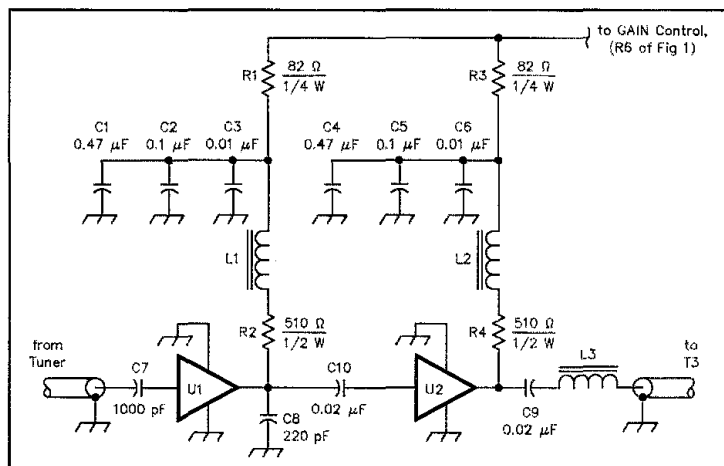

Figure 2—Schematic of the amplifier of Figure 1.
The circuit is shown in Figure 1; the amplifier portion is shown in Figure 2. The 90° pi network replaces Webb's quarter-wave transmission line. A hybrid summer3
- Pi network—C1, L1 and C2, see Table 1; tuner L2, L3 and L4, see Table 2; amplifier, see Figure 2.
The Null Steerer's amplifier (see Figure 2) is designed to permit use of a simple single-sided PC board. You can make the resist pattern using a Radio Shack resist-ink pen (276-1530), or purchase a ready-made PC board.4 This amplifier uses tiny monolithic microwave integrated circuit ICs (MMICs) for a low-component-count amplifier with a nominal gain of 40 dB.5